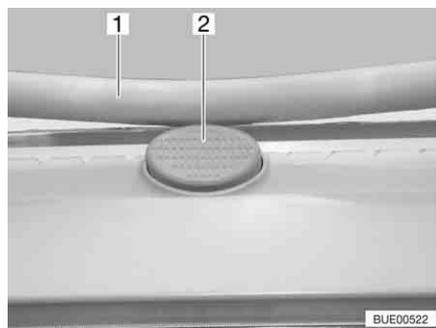

Fig. 104 Safety knob on the Heki skylight
- Press the safety knob (Fig. 104,2) and pull the bar (Fig. 104,1) down with both hands.
- Push the bar upwards with both hands until it is above the safety knob (Fig. 104,2).